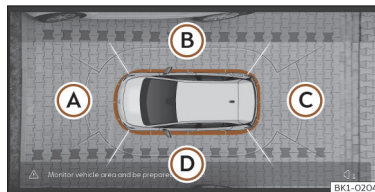

Fig. 146 Display of the Area View system: aerial view.
There are four different views to choose from >>> **Fig. 146:**
The aerial view is generated by combining the images from all the cameras >>> **Fig. 146.** The top view can be selected by pressing the vehicle inside the zone.
Press on the different areas >>> **Fig. 146 (A)** to **(D)** of the top view or reduced top view to select and set the corresponding view, which will be highlighted in orange.